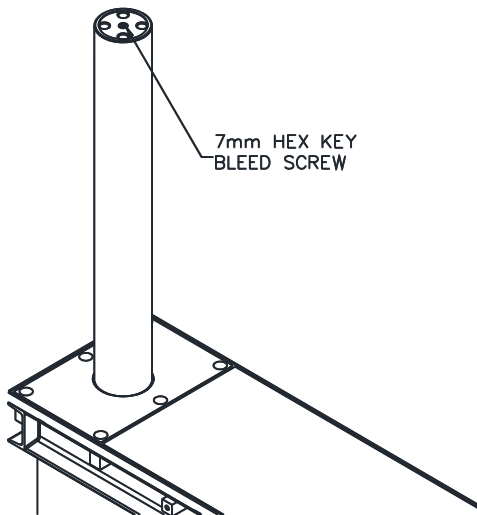

Fig 15 – Cylinder Bleeding
23. Energize the power unit to run the cylinder up about 3 feet. Loosen the bleed screw at the top of each cylinder, allow the trapped air to escape, and tighten bleeder screw. Bleed both cylinders until clear oil is seen. Refer to **Fig 15**.